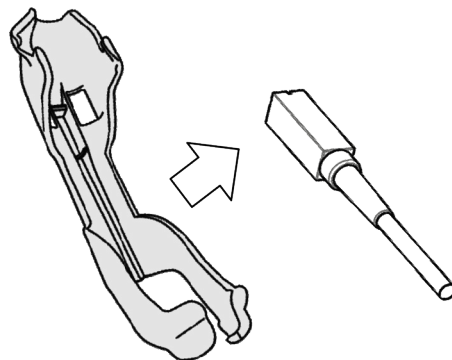

Figure 8 How to release Magnetic Position Sensor from the attachment
- (2) Release the magnetic position sensor from the magnetic position sensor attachment as shown in Figure 8.